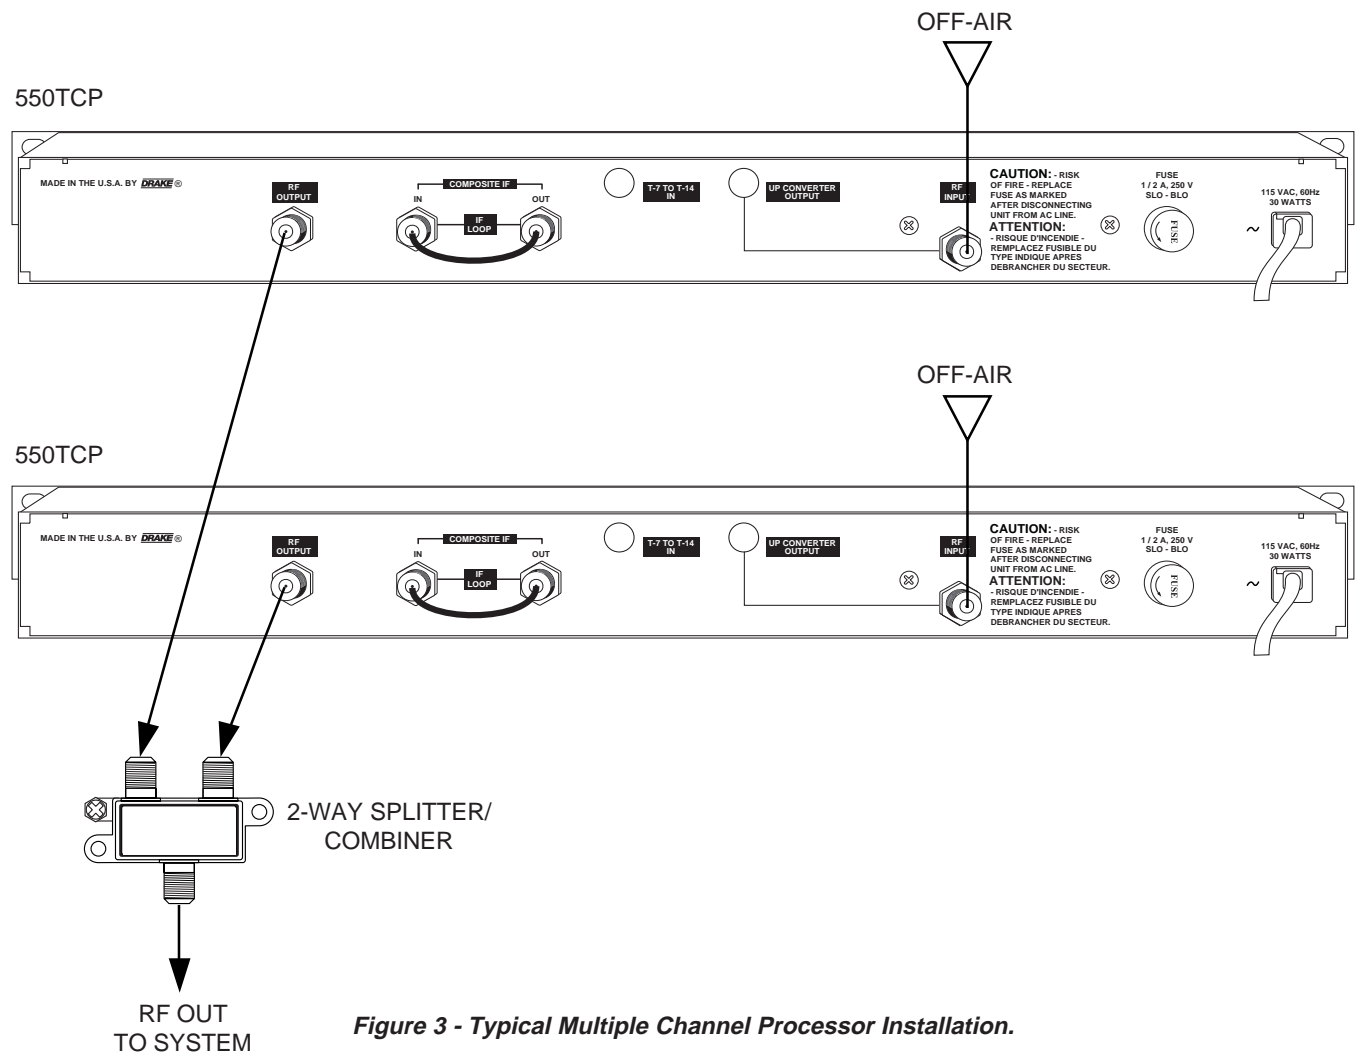

Figure 3 - Typical Multiple Channel Processor Installation.
**CONNECTIONS AND CONTROLS** – All connections to and from the 550TCP are made through the rear panel. Figure 3 shows a typical two channel processing installation involving the converting of off-air signals. Additional channels can be processed by using additional channel processor units and either multi-port combiners or combinations of two-port combiners.